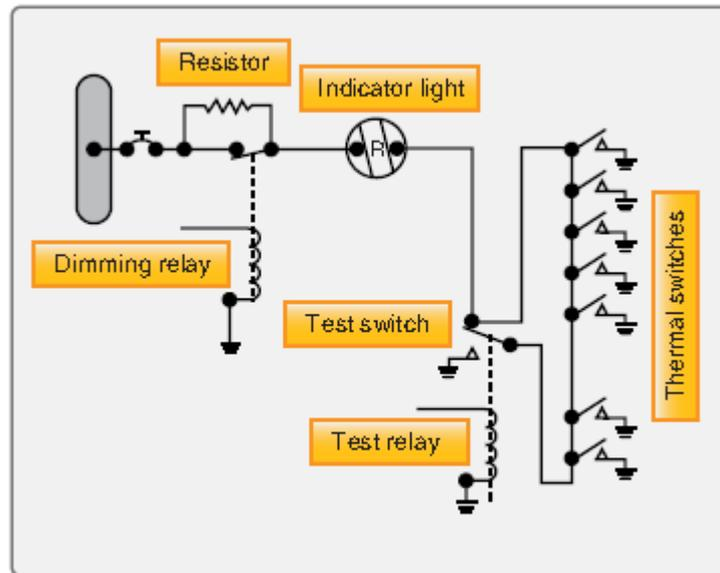

Figure 17-1. Thermal switch fire circuit.
4. *[Figure 17-1]* If the temperature rises above a set value in any one section of the circuit, the thermal switch closes, completing the light circuit to indicate a fire or overheat condition.
8. The circuit shown in *Figure 17-1* includes a test relay. With the relay contact in the position shown, there are two possible paths for current flow from the switches to the light.
9. This is an additional safety feature. Energizing the test relay completes a series circuit and checks all the wiring and the light bulb. Also included in the circuit shown in *Figure 17-1* is a dimming relay.